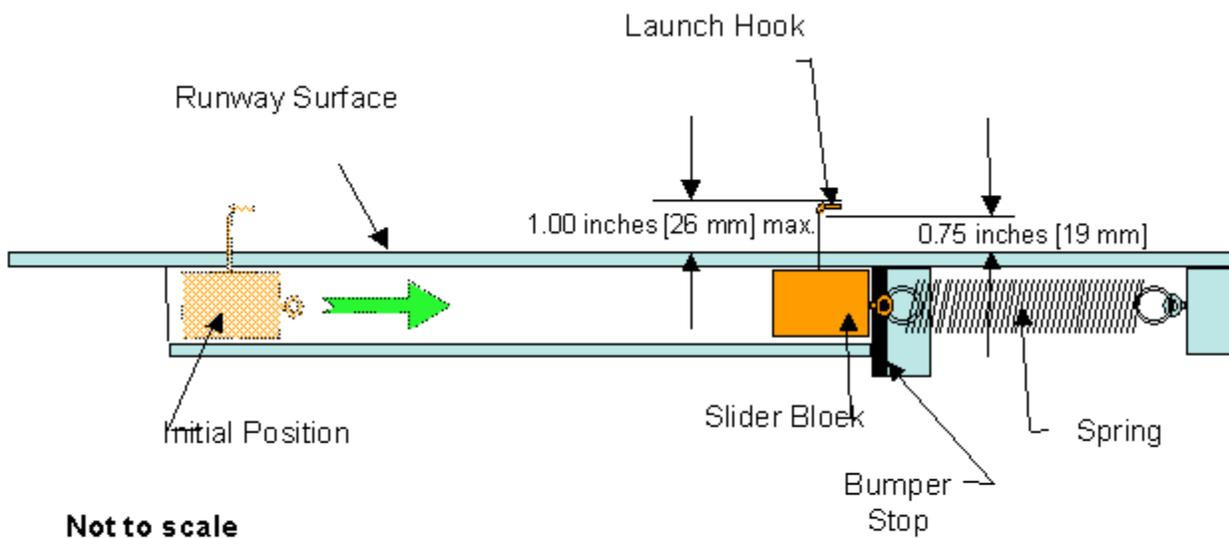

Figure 1: Launch Device – Side View
- 9) The official launcher consists of a tension spring, a launch platform and a launch “hook”. The tension spring is an 11” spring with a 0.17 pound per inch spring rate. It is available from McMaster-Carr and is Part Number 9640K243. It will be stretched 30.0 inches from its final position. The estimated tension load in the spring at the start of launch is 5.87 pounds. After launch the final length of the spring is 1.25”. In the final position, the spring has a load of 0.77 pounds. In the completely relaxed state, the spring has a preload of 0.73 pounds. The spring has an outer diameter of 1.00” and a wire diameter of 0.062 inches. The mass of the spring is 170 grams. (See Figure 1 below)